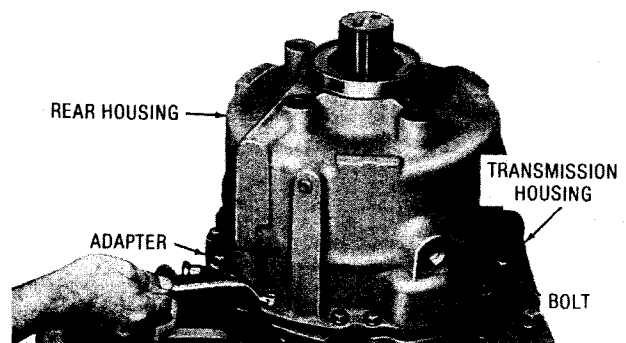

Fig. 5-41. Removing rear housing bolts (TRT 2221-3, 2421-3 with underdrive)
(1) Position the transmission, front downward, and remove fifteen bolts and lockwashers which retain the rear housing to the adapter (fig. 5-41).